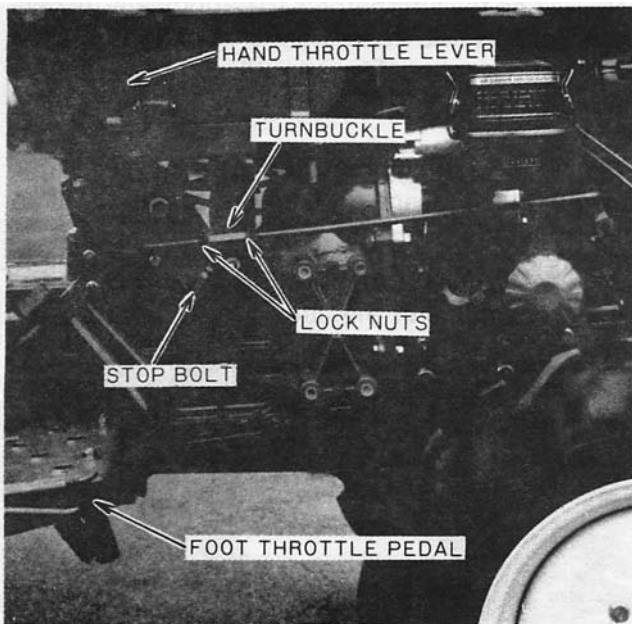

Figure 39 – Idle and Throttle Stop Adjustment
3. The maximum no-load speed of 2850-2900 rpm is adjusted by the stop bolt, Figure 39.